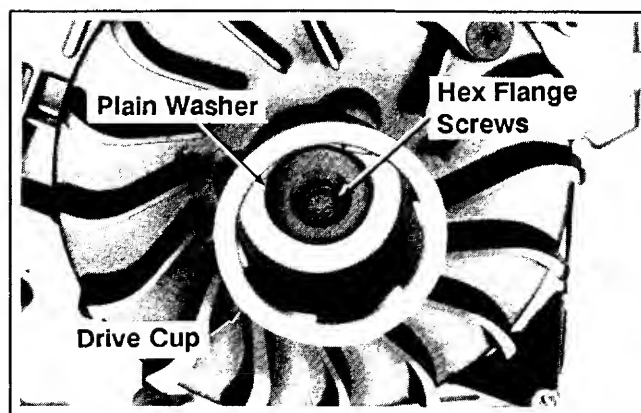

Figure 9-20. Removing Flywheel.
1. Remove the hex. flange screw, plain washer, and drive cup. See Figures 9-20 and 9-21.